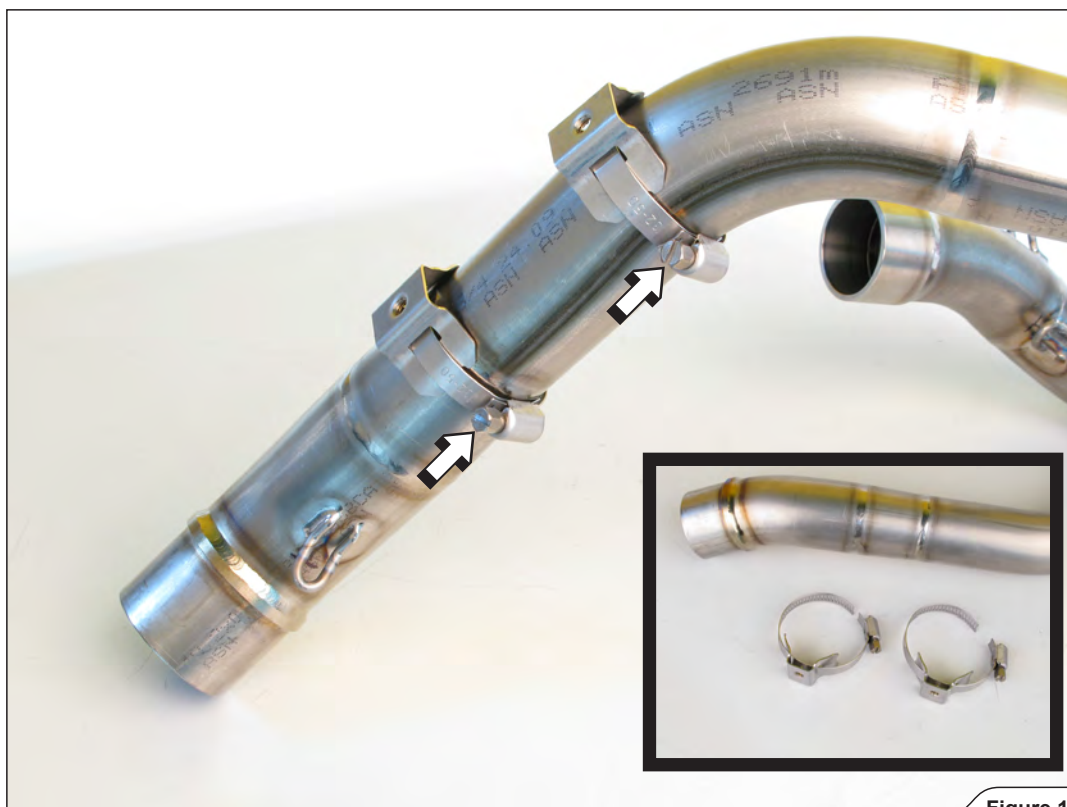

Figure 10
3. Assemble the heat shield's brackets and tape clamps from Akrapovič installation kit as shown and install them onto the header pipe. Hand tighten the tape clamps, so they can still be adjusted (Figure 10).